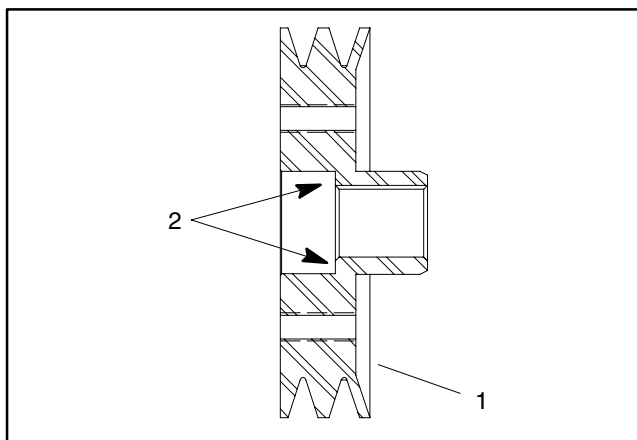

Figure 22
A. Install first outside ring with the flat edge of the ring seated against small internal shoulder of pulley (Fig. 22).